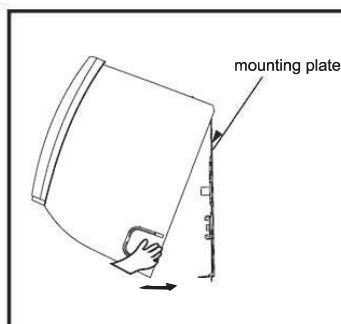

Fig. 8
- 1) Hang the unit onto mounting plate (Fig. 8).